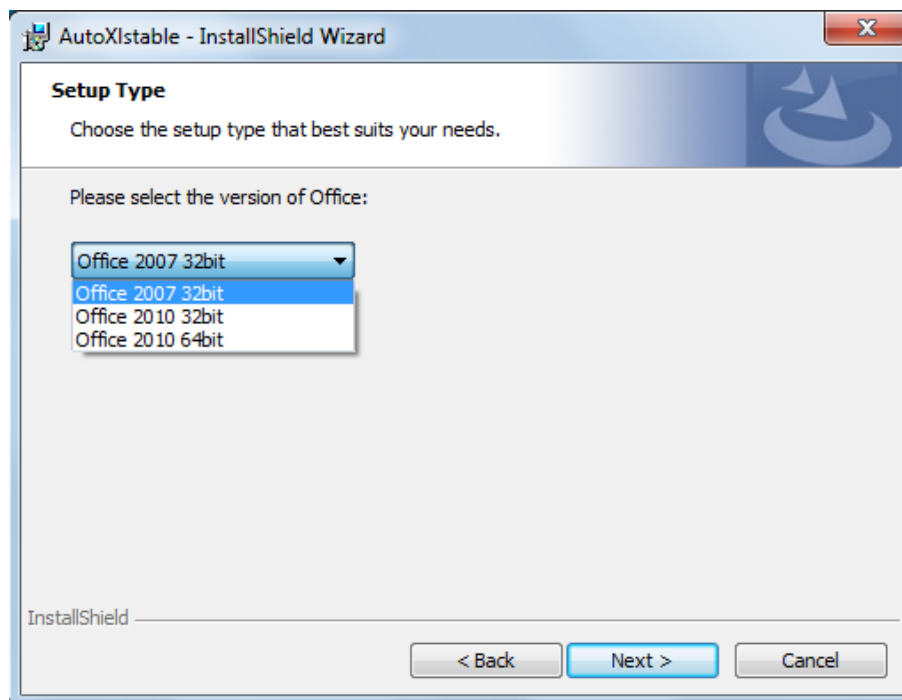

Figure 2-2
2.- Select the version of your Microsoft Office and click "Next". See Figure 2-2.